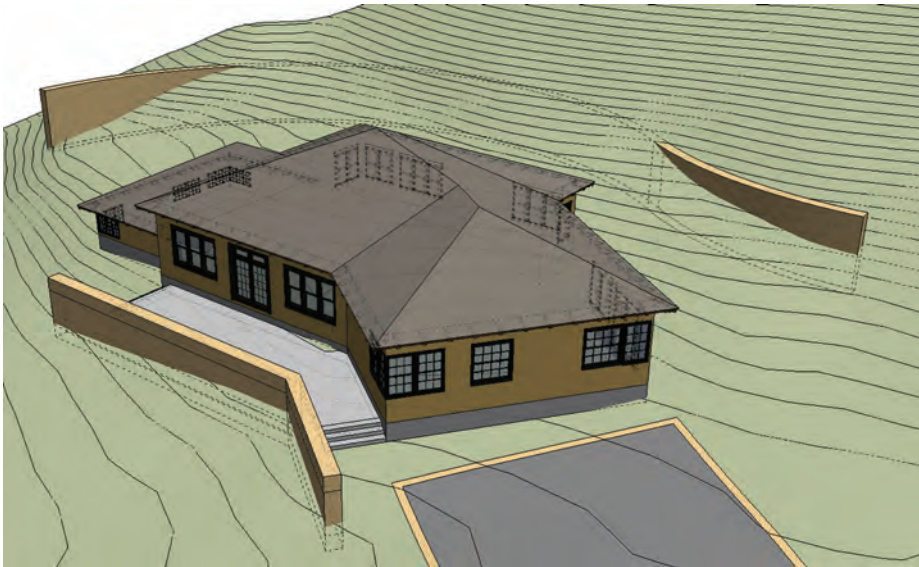

Fig. 15-20: Use DropGC and the Move tool to place the home and walls into the terrain.
2. Use DropGC and the Move tool to place the home and walls into the terrain. Position them as well as you can based on the desired elevations (Fig. 15-20).